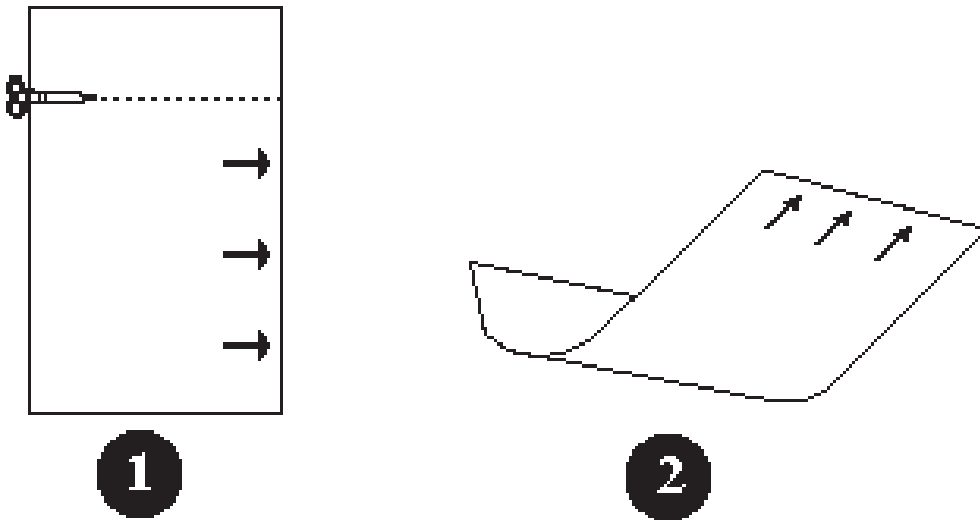

Figure 2
- 8 Cut the sheet along the dotted line and reload the sheet **facedown** into the Printer, in the direction indicated by the arrows on the calibration plot (see Figure 2).